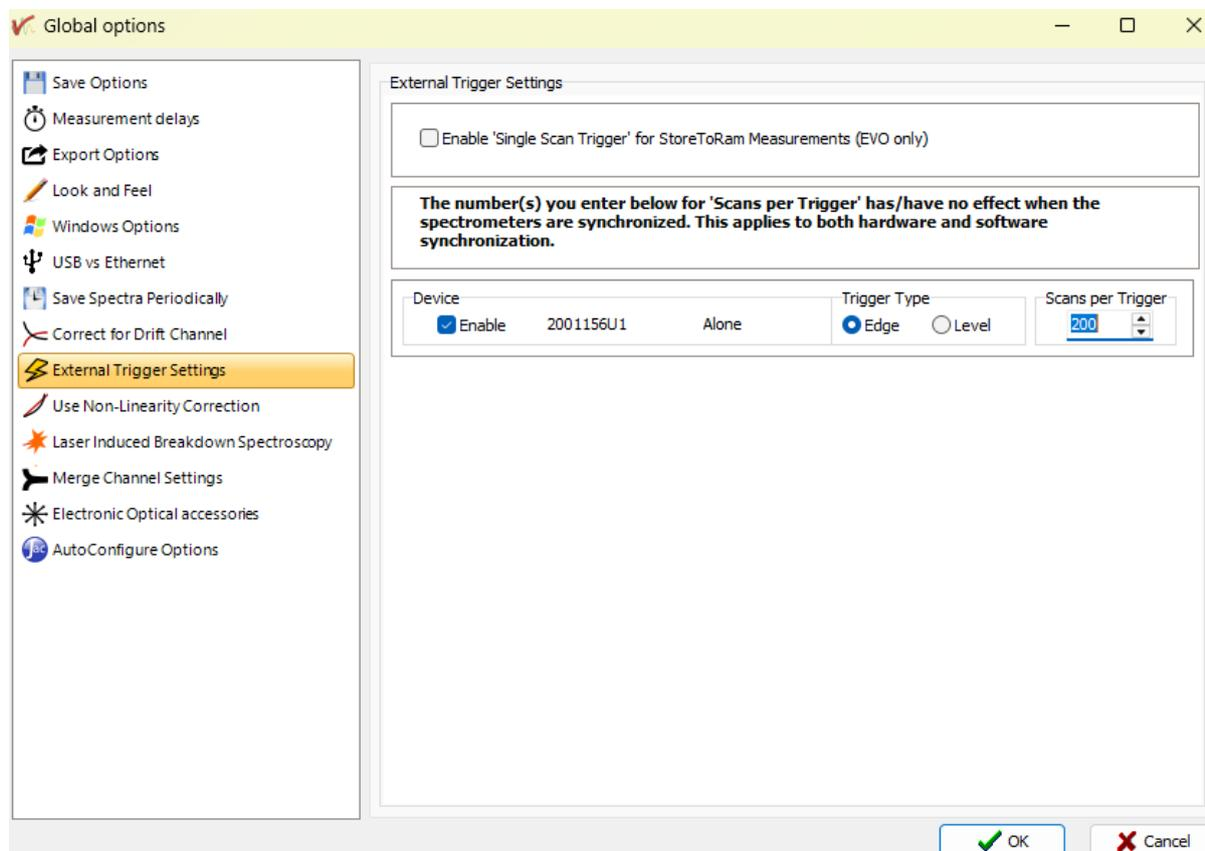

Figure 17: AvaSoft trigger settings for the Chronoamperometry experiment
- Scans per Trigger: 200 (see Figure 17)